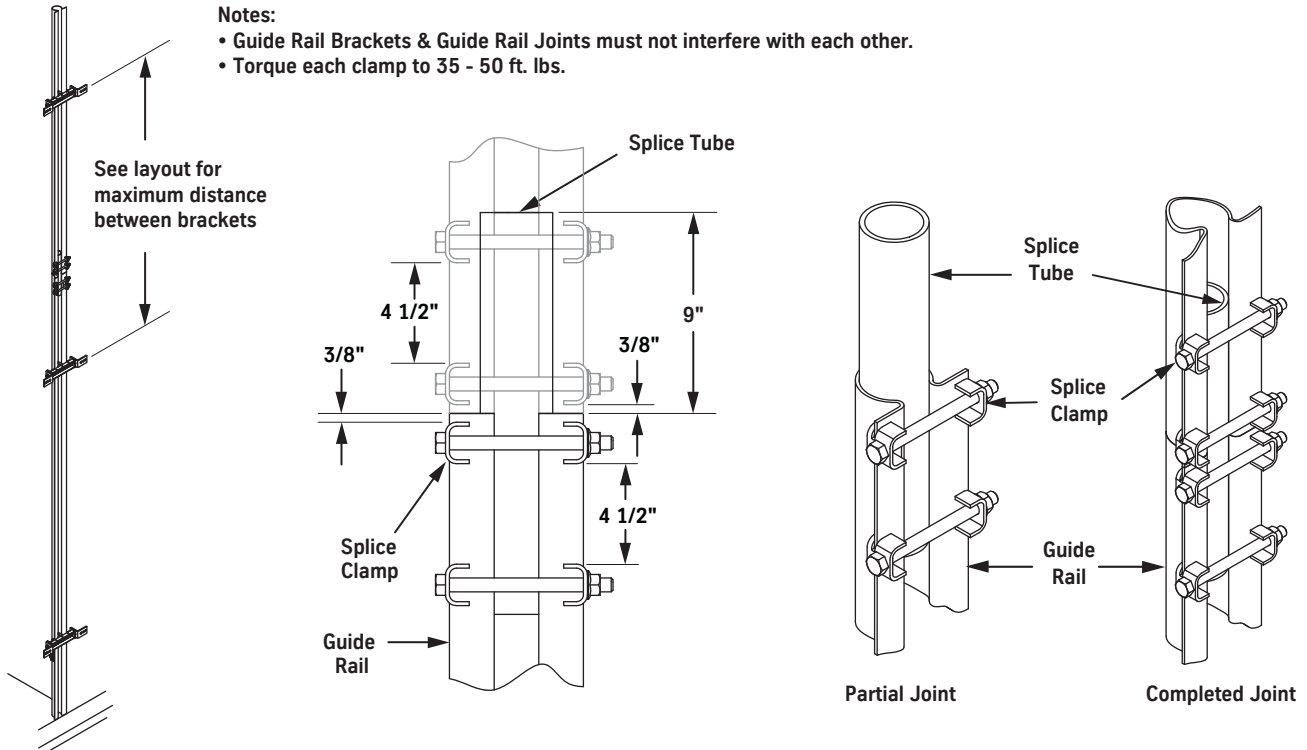

Figure 47 - Rail Splice and Final Rail Installation
2. Install the lasers on the pit template underneath the rails. See Figure 47 on page 1-64 for all steps in this procedure.